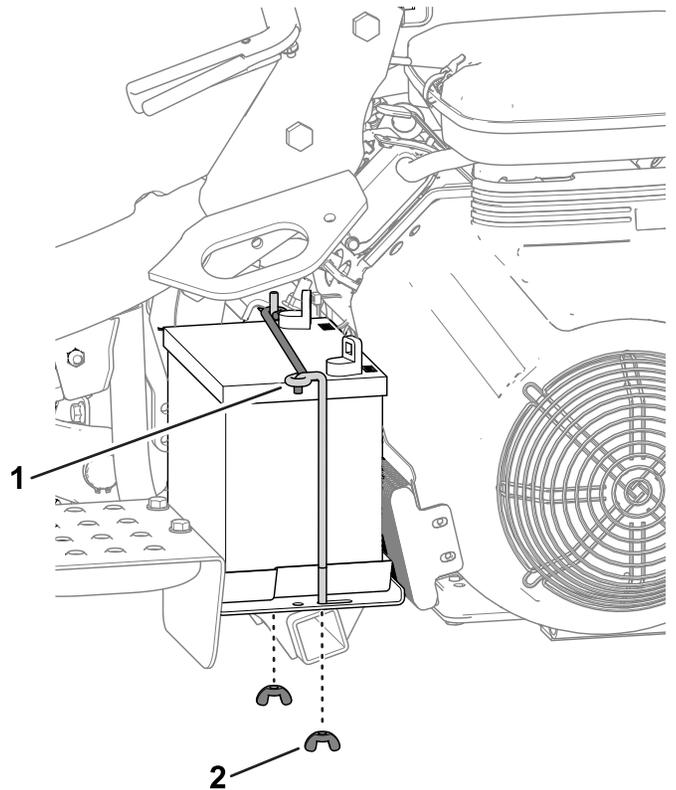

Figure 45
2. Remove the wing nuts and rods that secure the battery to the platform (Figure 45) and lift out the battery.
5. Place the battery on the battery tray and secure it with the previously removed rods and fasteners (Figure 45).